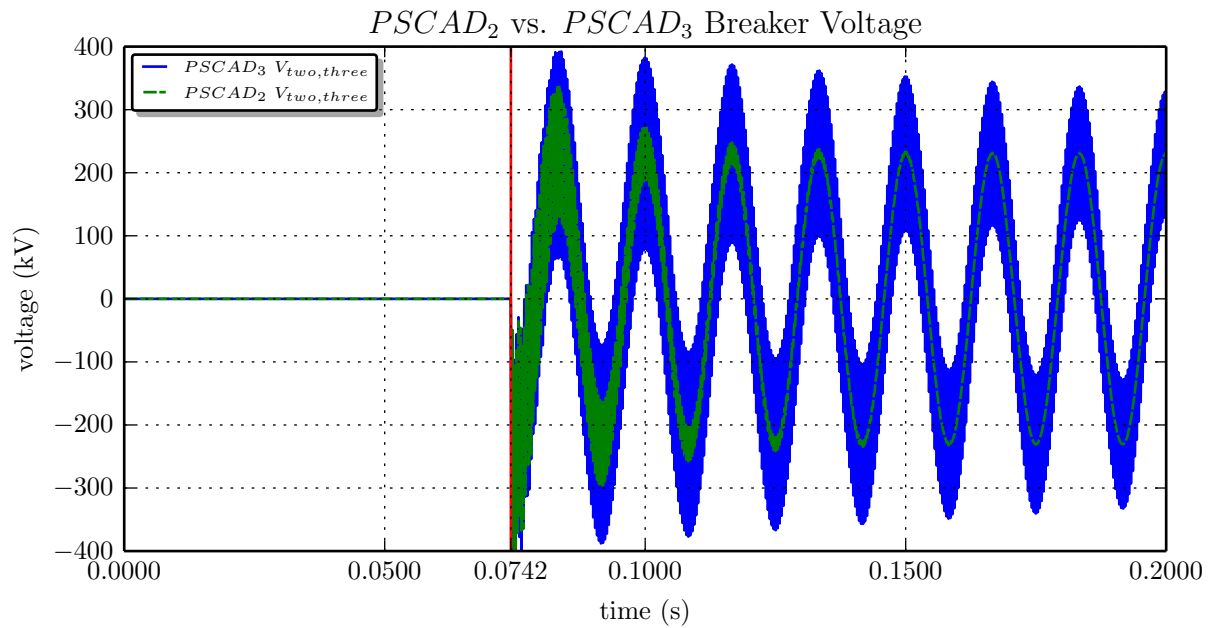

Figure 17: Plots of $V_{two,three}$ breaker voltage
- c) Plots of $V_{two,three}$ which represents the voltage across the breaker (Figures 17 and 18).